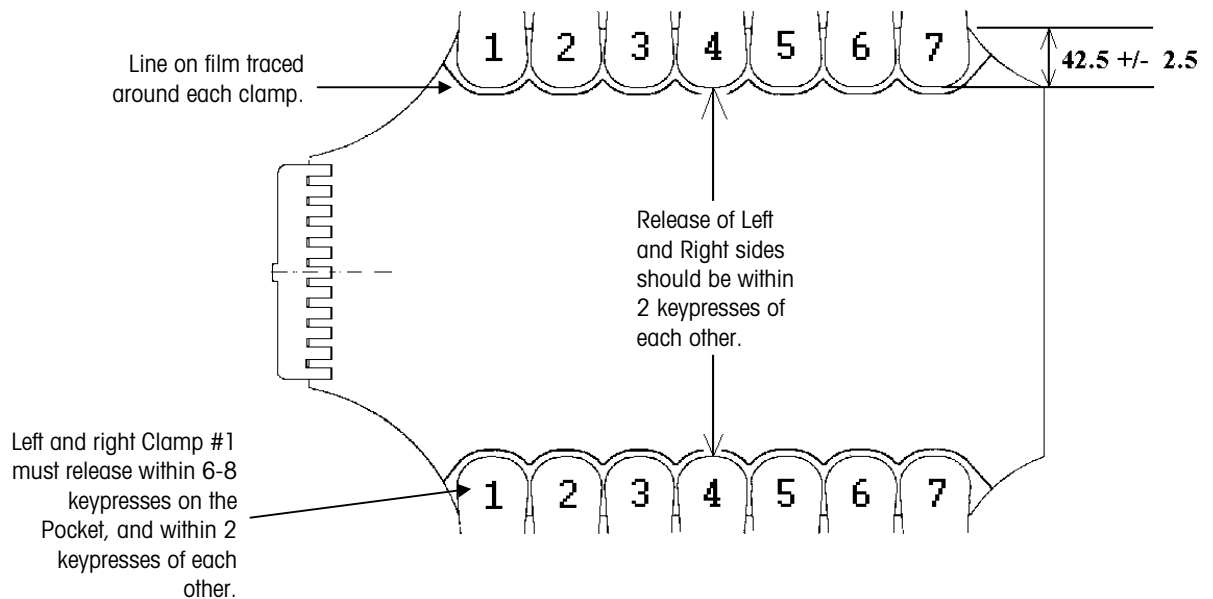

Figure 7-36
9. Repeatedly depress the <ENTER> key on the pocket and observe the film release. The film should be released first from the end closest to the clamp opening cam within the previously set 6-8 keypresses. As <ENTER> is continually pressed, the film should be subsequently released from clamps 1, 2, 3, and so on. See Figure 7-36.
Test 808 should be used to verify the release timing of the side clamps, as well as the film tracking. When this test is run, the quantity of film grasped by each Side Clamp must be equal within 6mm. (Figure 7-36) This is to verify the film is centered in the machine. If the film is not centered within this tolerance, refer to the section on Film Tracking.